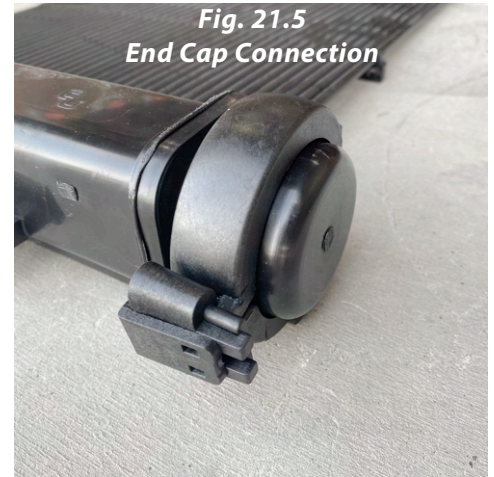

Fig. 21.5
4. Attach the (2-1810-013) end caps on the corners opposite the feed and return lines using the (2-1810-004) panel clamp assemblies. Reference Fig. 21.5 above.